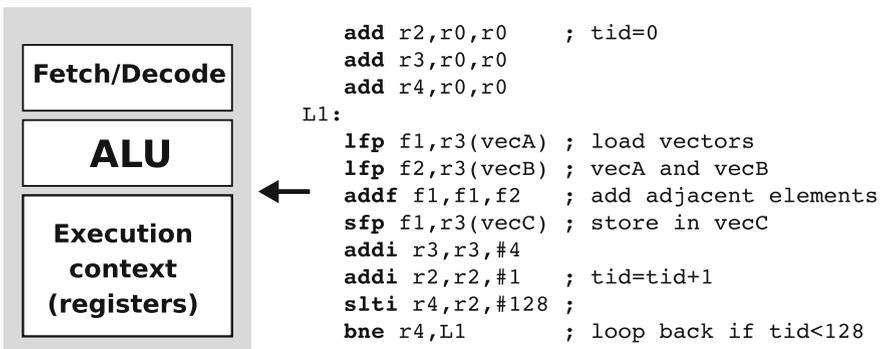
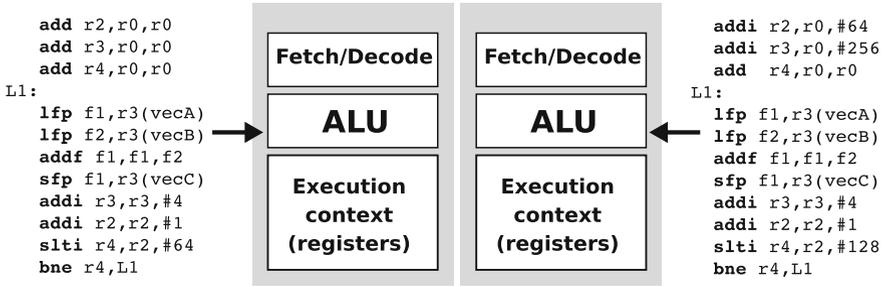
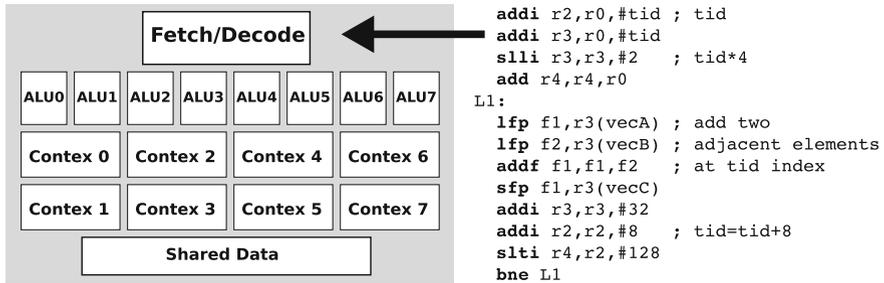

Fig. 5.2 A single instruction stream is executed on a single-core CPU
Fig. 5.3 Two instructions streams (two threads) are executed fully in parallel on two CPU cores
Fig. 5.4 A GPU core with eight ALUs, eight execution contexts, and shared fetch/decode logic
The C code in Listing 5.1 implements vector addition of two floating-point vectors, each containing 128 elements. A slimmed CPU executes a single instruction stream obtained after the compilation of the program in Listing 5.1. A compiled fragment of the function `vectorAdd` that runs on a single-core CPU is presented in Fig. 5.2. With the first two instructions in Fig. 5.2, we clear the registers `r2` and `r3` (suppose `r0` is a zero register). The register `r2` is used to store loop counter (`tid` from Listing 5.1) while the register `r3` contains offset in the vectors `vecA` and `vecB`. Within the `L1` loop CPU loads adjacent elements from the vectors `vecA` and `vecB` into the floating-point registers `f1` and `f2`, adds them and stores the result from the register `f1` into the vector `vecC`. After that we increment the offset in the register `r3`. Recall that the vectors contain floating-point numbers, which are represented with 32 bits (4 bytes), thus the offset is incremented by 4. At the end of the loop, we increment the loop counter (variable `tid`) in the register `r2`, compare the loop counter with the value of 128 (the number of elements in each vector) and loop back if the counter is smaller, then the length of the vectors `vecA` and `vecB`.
Instead of using one slimmed CPU core from Fig. 5.2, we can use two such cores. Why? If we use two CPU cores from Fig. 5.2, we will be able to execute two instruction streams fully in parallel (Fig. 5.3). A two cores CPU from Fig. 5.3 replicates processing resources (Fetch/Decode logic, ALU, and execution context) and organizes them into two independent cores. When an application features two
instruction streams (i.e., two threads), a two cores CPU provides increased throughput by simultaneously executing these instruction streams on each core. In the case of vector addition from Listing 5.1, we can now run two threads on each core. In this case, each thread will add 64 adjacent vector elements. Notice that both threads in Fig. 5.3 have the same instruction stream but use different data. The first thread adds the first 64 elements (the loop index `tid` in the register `r2` iterates from 0 to 63), while the second thread adds the last 64 elements (the loop index `tid` in the register `r2` iterates from 64 to 127).
We can achieve even higher performance by further replicating ALUs and execution contexts as in Fig. 5.4. Instead of replicating the complete CPU core from Fig. 5.2, we can replicate only ALU and execution context and leaving the fetch/decode logic shared among ALUs. As the fetch/decode logic is shared, all ALUs should execute the same operations contained in an instruction stream, but they can use different input data. Figure 5.4 depicts such a core with eight ALUs, eight execution contexts and shared fetch/decode logic. Such a core usually implements additional storage for data shared among the threads.
instructions. The compiler for such a CPU core should be able to translate the code from Listing 5.1 into the assembly code from Fig. 5.4. When the first instruction is fetched it is dispatched to all eight ALUs within the core. Recall that each ALU has its own set of registers (execution context) so each ALU would add its own `tid` to its own register `r2`. The same holds also for the second and all following instructions in the instruction stream. For example, the instruction
In this book, we will refer to a CPU core from Fig. 5.4 as **Compute Unit (CU)** and to ALU as **Processing Element**. Let us summarize the key-features of computer units. We can say that they are general-purpose processors, but they are designed very differently than the general-purpose cores in CPUs—they support so-called SIMD (Single Instruction Multiple Data) parallelism through replication of execution units (ALUs), and corresponding execution contexts, they do not support branch prediction or speculative execution and they have less cache than general-purpose CPUs.